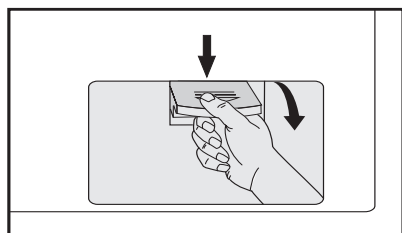

Fig. 14
1. After the power is disconnected, use hand to open the filter cover. (Fig. 14)